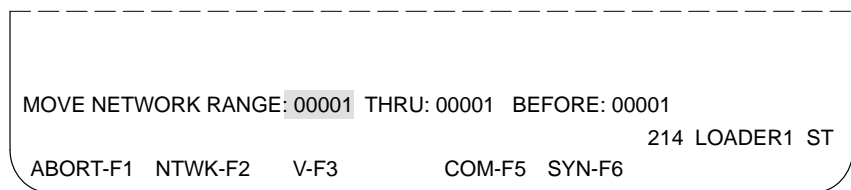

Figure 9-2 Block Operation Screen
3. The prompt line, shown in Figure 9-2, allows you to specify a range of networks to copy, move, or delete. The function key line allows you to select V memory, comments, or synonyms instead of networks. Press **V-F3**, **COM-F5**, or **SYN-F6** if you want any of these options.